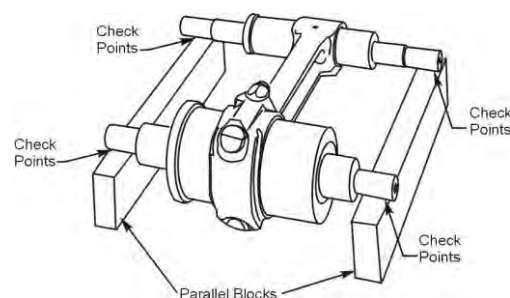

Figure 35
- L. Put the parallel blocks (Figure 35) of the connecting rod parallelism and squareness gage on the surface plate.
- N. For the squareness check measure the clearance at the four check points in Figure 35 where the arbors rest on the parallel blocks using a feeler gage. Record the measurement in the Connecting Rod Inspection Checklist in this chapter.